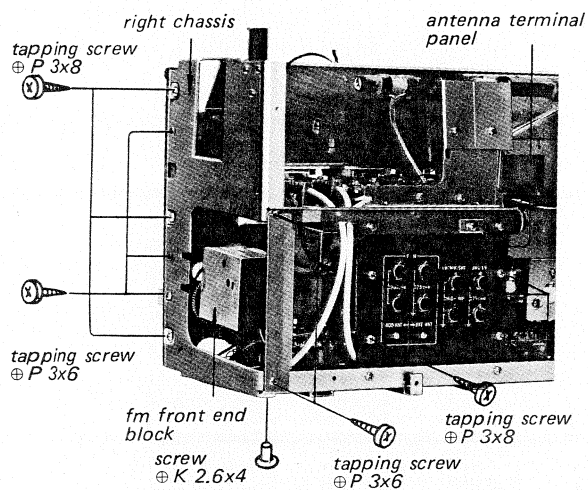

Fig. 2-4
1. Remove the thirteen screws shown in Fig. 2-4.